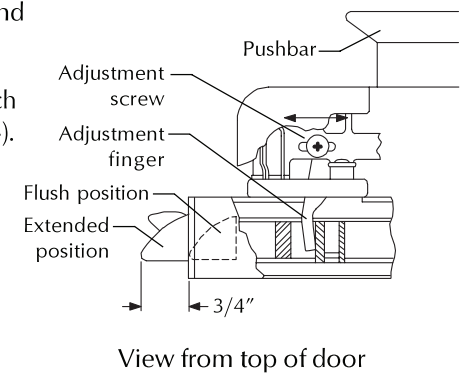

Figure 4
- A. Loosen adjustment screws on top and bottom of device (Figure 4).
- B. Move adjustment finger toward latch bolt until it is fully extended (Figure 4).